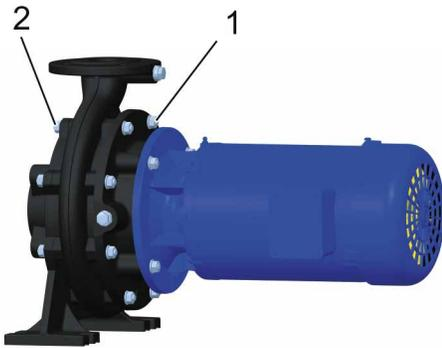

Fig. 32 Tightening the screw connections (example: herborner.F-N)
11. Tighten all screw connections between intermediate casing and pump casing (Fig. 32/1) and between pump casing and casing cover (Fig. 32/2) ($\frac{3}{8}$ " - 16 UNC = 45 Nm, $\frac{7}{16}$ " - 14 UNC = 70 Nm).